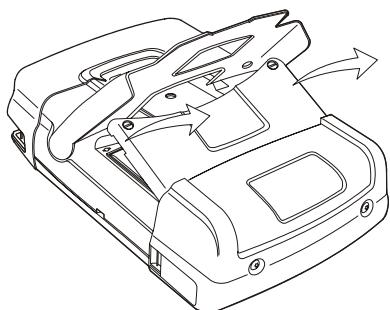

Figure 49. Removing the Battery Cover
4. Lift the battery cover and remove it, (Figure 49)